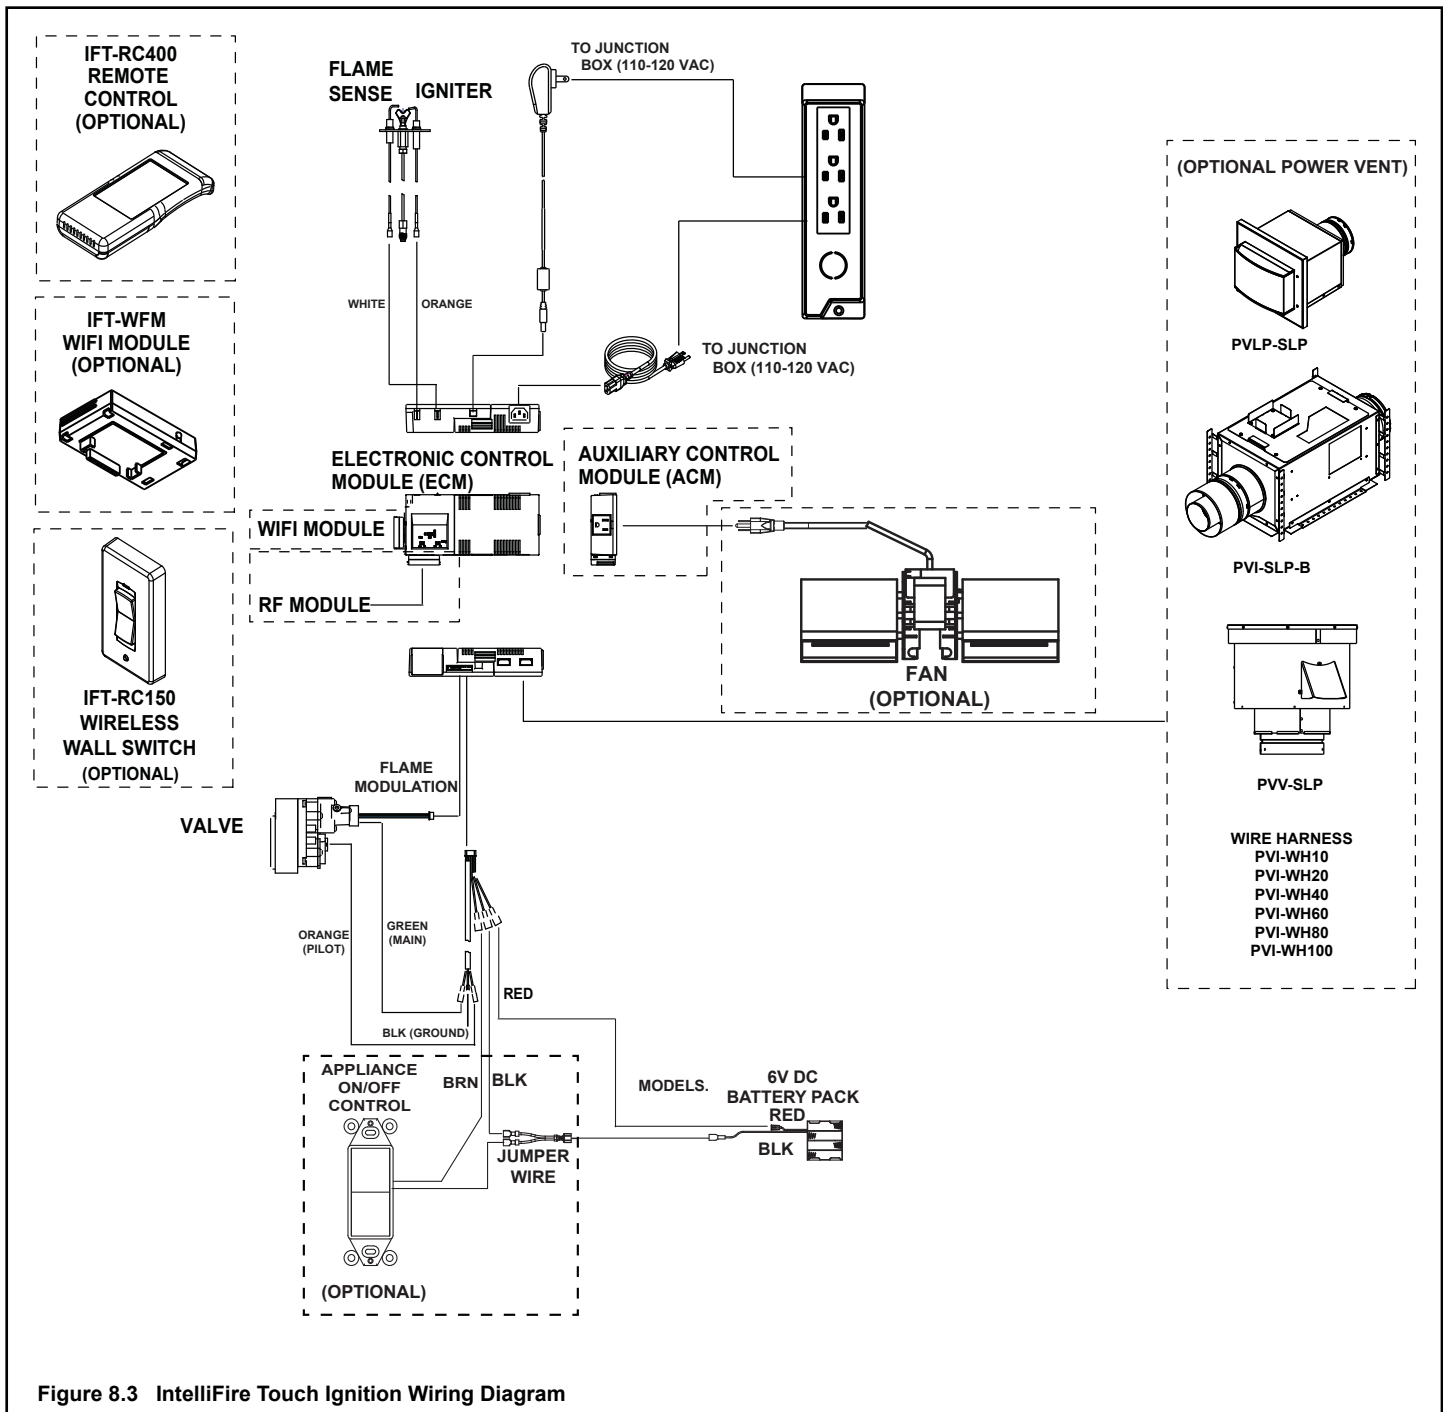

Figure 8.3 IntelliFire Touch Ignition Wiring Diagram
- Refer to Figure 8.3 IntelliFire Touch (IFT) Wiring Diagram.